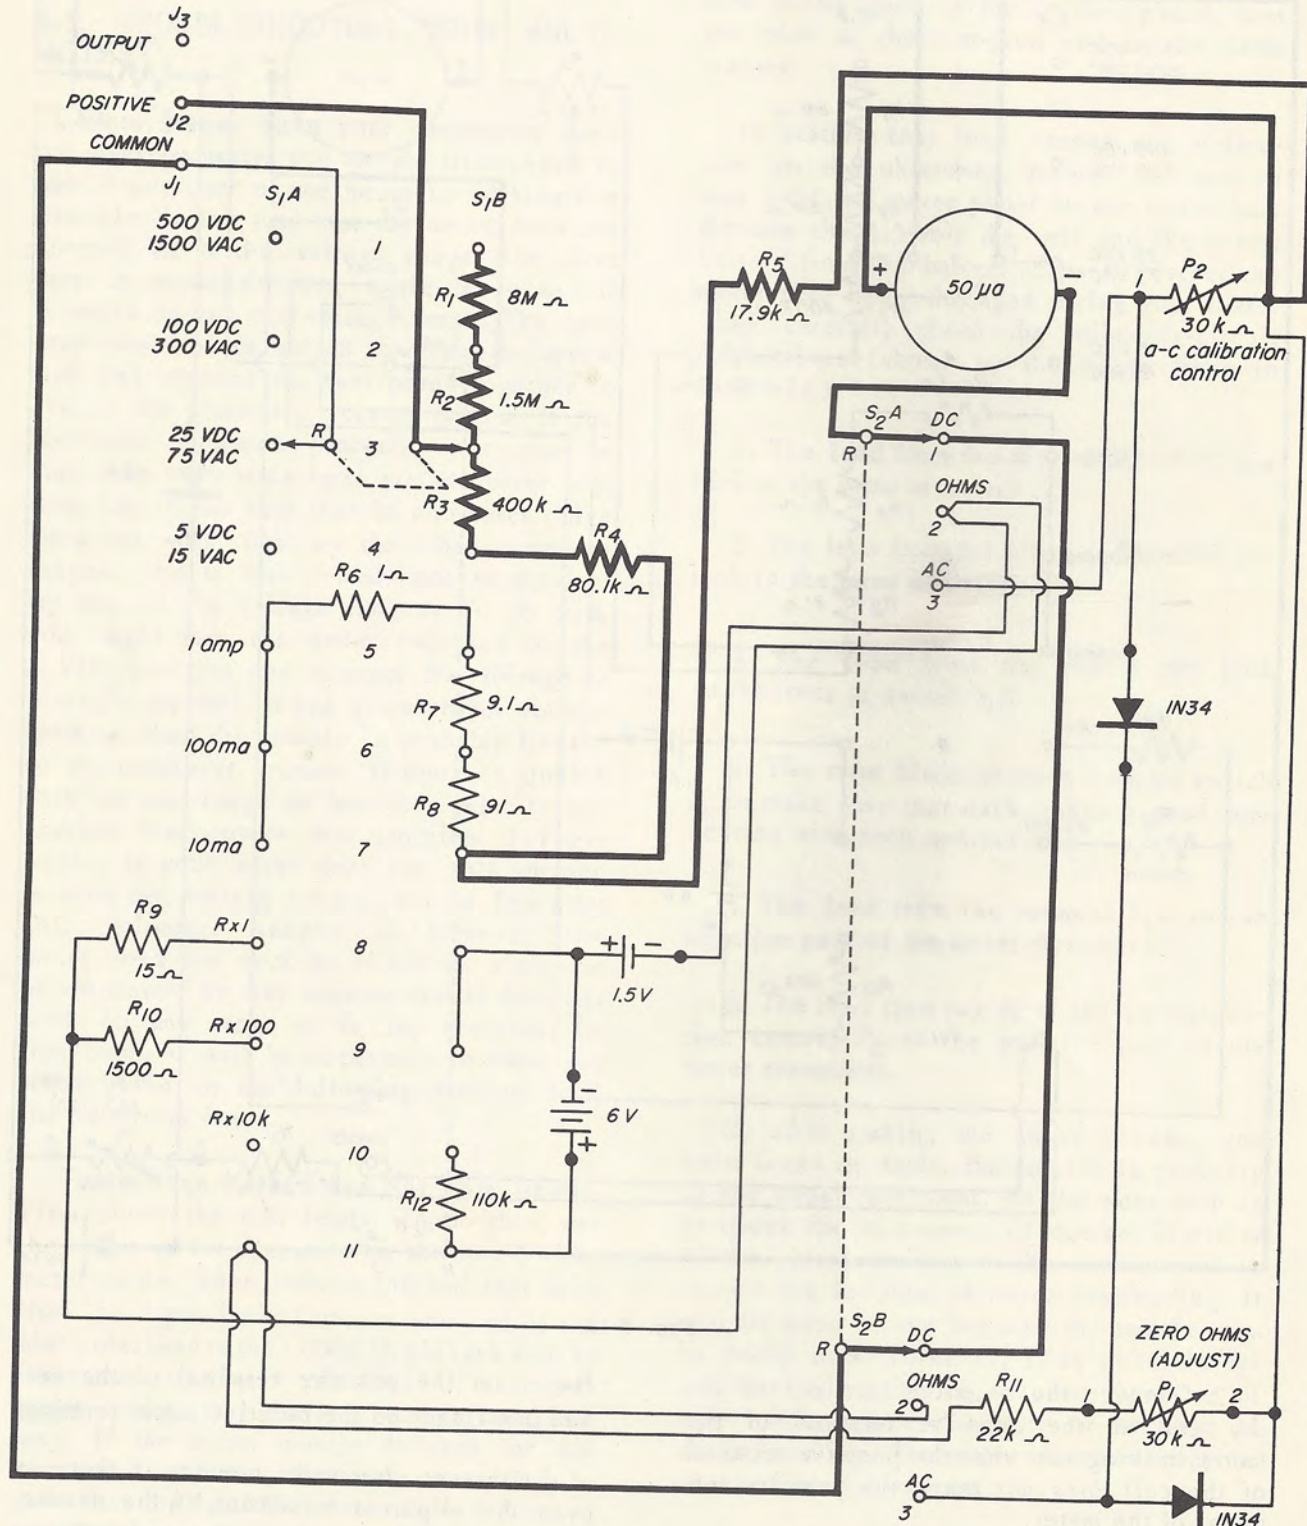

Fig. 8-13
**Tests For D-C Voltmeter Ranges.** If one or more voltmeter ranges do not operate, or if no trouble was located in the first group of tests, it will be necessary to test the resistors and connections shown by the heavy lines in Fig. 8-13.
If there is still no deflection of the meter, check the lead between  $S_2B_1$  and  $S_2A_1$  on the FUNCTION switch  $S_2$ . If these connections seem to be good, resolder all the connections shown by the heavy lines in Fig. 8-13. If there is no trouble with the voltmeter section of your multimeter and you have made these tests carefully, you should have found the trouble by now.